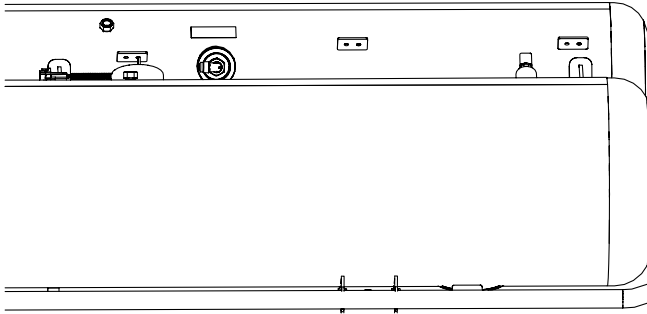

Figure 34 – OPD Orientation
2. If reusing, clean the threads and apply pipe thread sealant (PLS2 Everseal 183) to the threads of the 90-degree fitting. Assemble the 90-degree fitting to the fill valve in the orientation shown in Figure 34. Torque fitting to 31 Nm minimum, plus orientation, reverse rotation is not permissible.